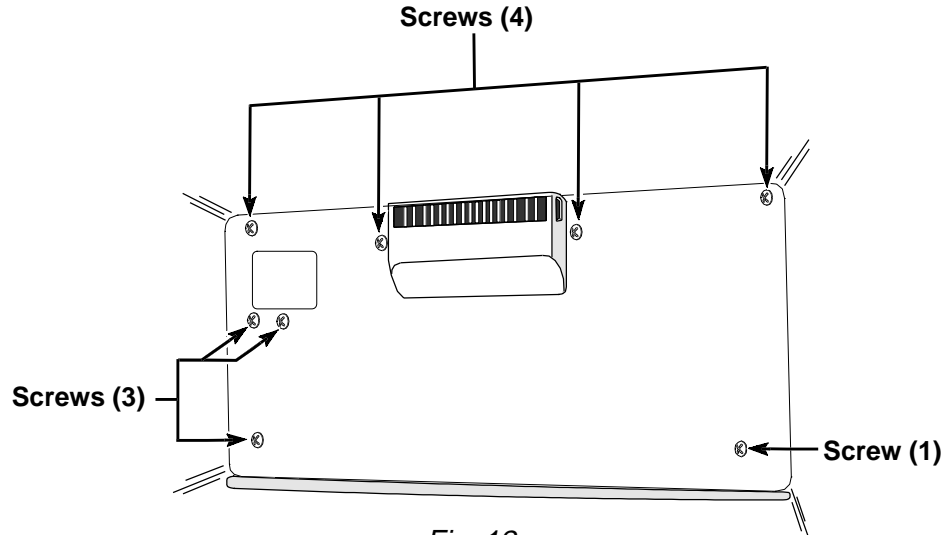

Fig. 12
2. Remove the eight (8) screws securing the evaporator cover, ice maker wiring harness cover and air diffuser in the freezer section. (Fig. 12)